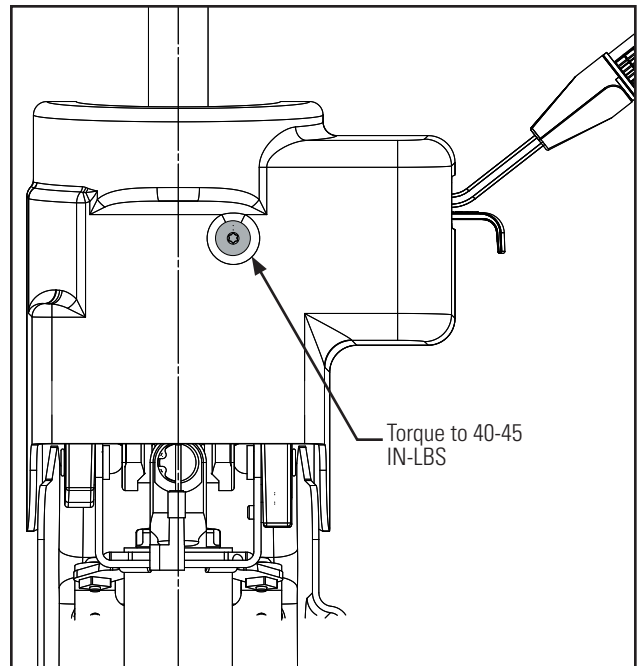

FIGURE 3
4. Using a T27 Torx driver, remove the (1) remaining upper shroud screw shown in Figure 3.
10. Re-install the remaining upper shroud screw, tightening to 40-45 in-lbs. See Figure 3.